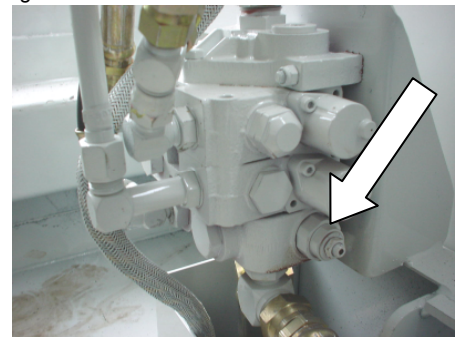

Fig. 2
- ❑ 3- Loosen jamb nut at main relief. Arbitrarily turn outward (CCW) the main system relief 2 to 3 turns to lower its setting a great deal. <FIG 2>